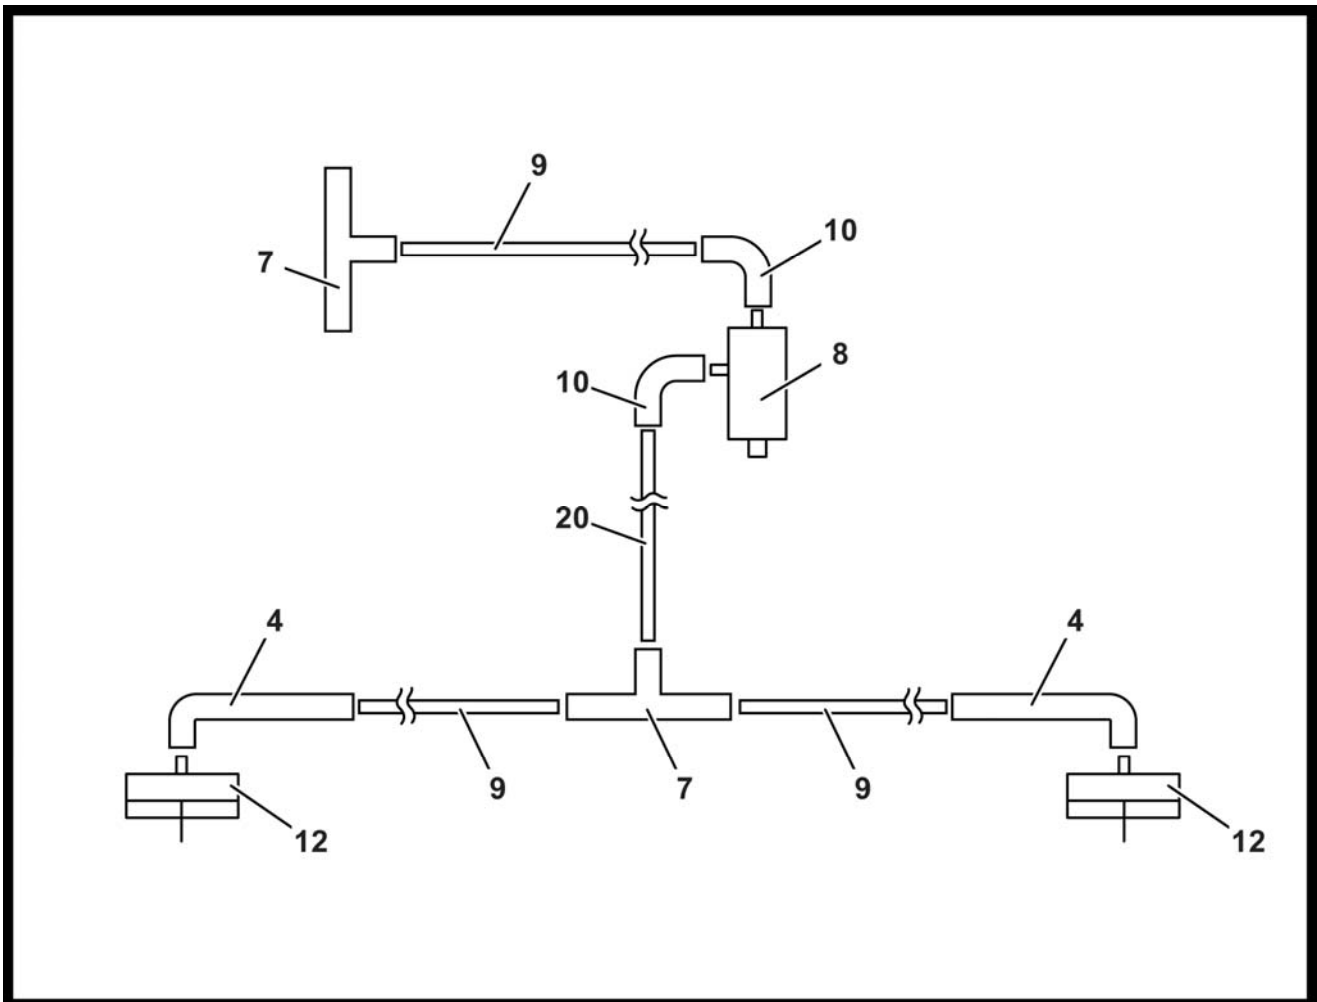

Fig. 07
- 3 Mount the reversing valve (8) with bracket on the intake manifold.
- 4 Using a molded hose (10), connect the vacuum pipe (9) from the Y-piece on the timing valve to the reversing valve (8).
- 5 Route the vacuum pipe (20) from the reversing valve (8) past the intake manifold in the direction of the visible side of the engine. Once there, connect it to the ready-fitted lines coming from the exhaust flaps using Y-pieces. (See connection diagram for vacuum supply, Fig. 07).